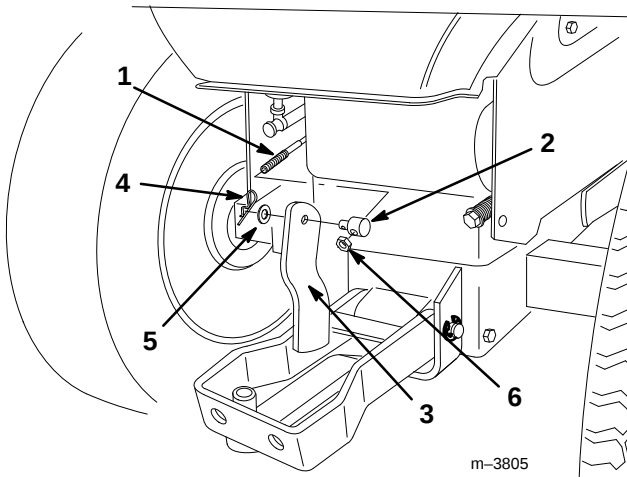

Figure 2
3. Remove the hairpin, washer and trunnion from the lift cable mounting bracket on the clevis hitch. Remove the trunnion and cable assembly (Fig. 2). Measure and record the distance from the end of the cable to the trunnion to use as a reference for installing the trunnion on the new cable. Unscrew the locknut and trunnion from the lift cable. Save all parts except the lift cable.